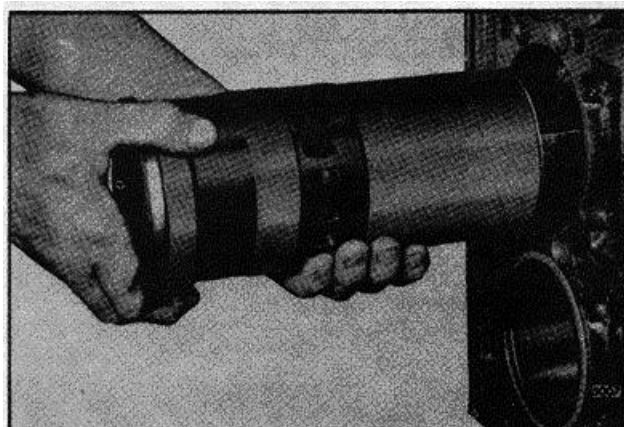

Fig. 10 · Installing Piston, Rod and Liner Assembly in Cylinder Block
6. Position the piston, rod and liner assembly in line with the block bore (Fig. 10) so the identification number on the rod is facing the engine serial number side (In-line engine). Also align the matchmarks on the liner and the block. Then slide the entire assembly into the block bore and seal ring, being careful not to damage the seal ring.